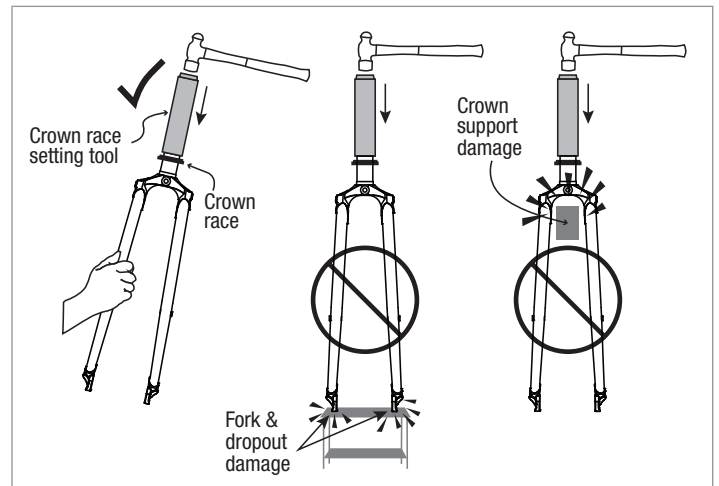
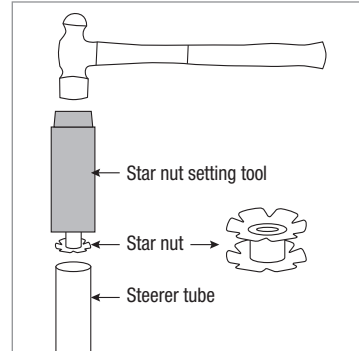

Figure 1
Figure 7
▲ WARNING: Do not place the fork on the dropout tips or support the fork in the crown area while installing the crown race. Doing so can damage the fork (Fig.1).
- A. Hold the fork with one hand (Fig. 1) and install a new star nut using a star nut setting tool and hammer (Fig. 7).